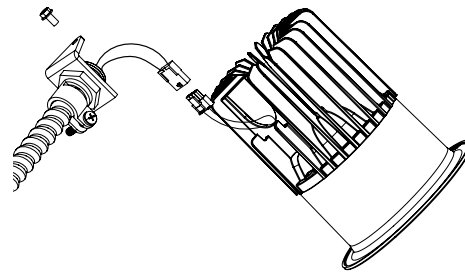
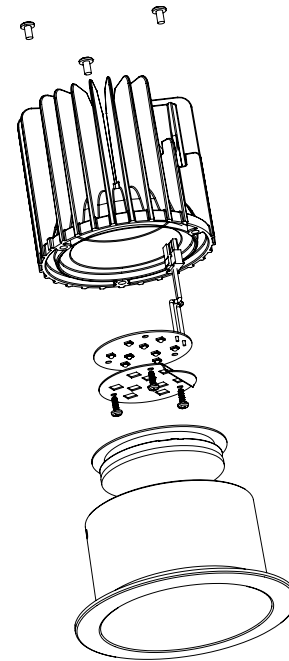

FIGURE 6
FIGURE 7
2. Fasten conduit adapter to trim housing using the screw provided (see Figure 6).
2. Disconnect conduit adapter by loosening screw. (See Figure 6)
4. Remove heatsink from lower housing by removing (3) screws and lifting off.
5. Remove (3) screws, reflector plate and insulator as shown in Figure 7. LED module may then be removed and replaced.
8. Secure the LED module, insulator and reflector plate to the housing by re-installing the (2) or (3) screws. See Figure 7.
9. Re-assemble the heatsink to the lower housing by replacing the (2) or (3) screws.